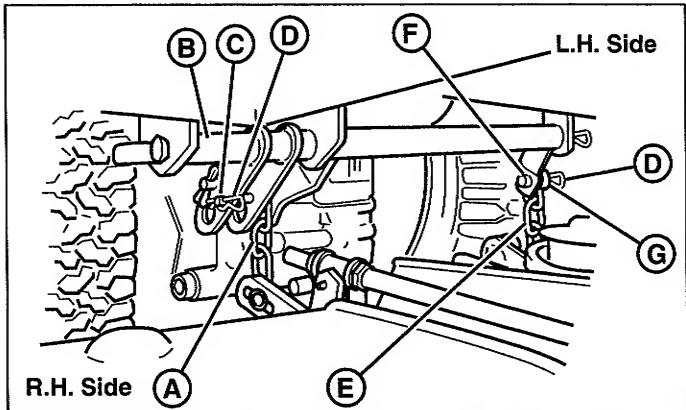

Figure 8. Mower Lift - Hydraulic Lift Models & 44"
3. **44" Models & Hydraulic Lift Modes:** Disconnect the mower lift chains (A, E, Figure 8) from the tractor lift arm (B). Re-install clevis pins, washers and safety clips on mower lift arms for storage.
4. Disconnect the mower lift chains (A, E, Figure 8) from the tractor lift arm (B). Re-install clevis pins, washers and safety clips on mower lift arms for storage.